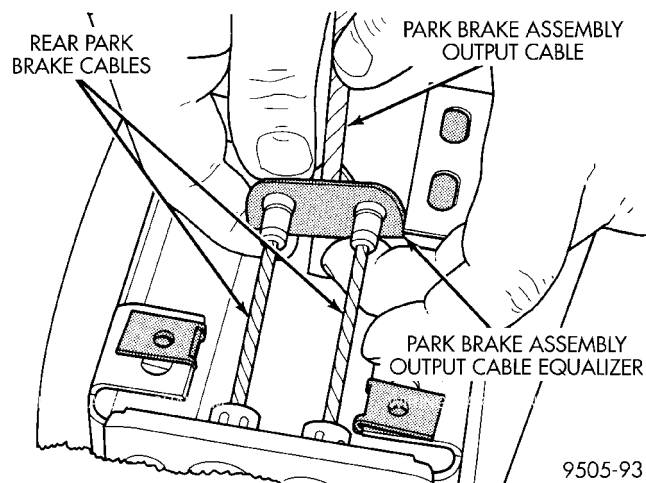
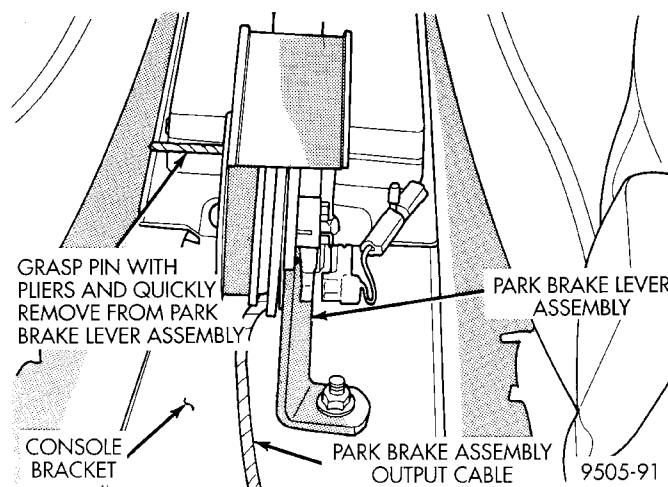

Fig. 129 Park Brake Cables At Equalizer
Fig. 132 Removing Lockout Pin From Park Brake Lever Assembly
- (7) Remove both rear park brake cables from the park brake cable equalizer (Fig. 129).
(2) Install both rear park brake cables into equalizer on park brake lever output cable (Fig. 129).
(3) Ensure that park brake cable is correctly installed and aligned with cable track on park brake lever.
(4) Firmly grasp park brake lever locking pin (Fig. 132) and quickly remove it from the park brake lever mechanism. This will allow the park brake lever mechanism to correctly adjust the park brake cables.